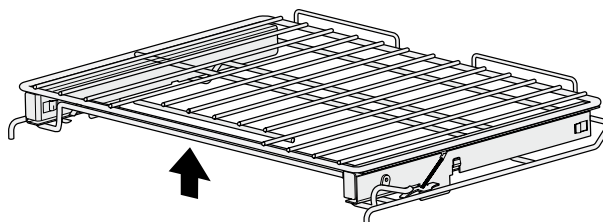

Figure 2 - Extendable glide rack with release lever in unlocked position
2. While holding up the release lever (see figure 2), pull the glide rack out of the oven until the stop position is reached, use two hands if necessary.